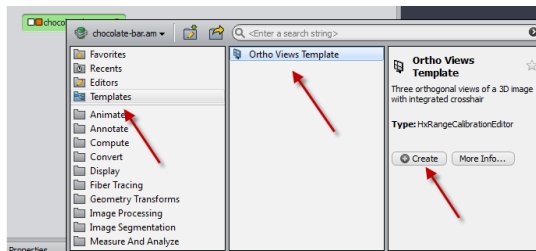

Figure 3.21: Ortho Views Template menu
- Right-click on the green data icon that appeared in the Project View. In the object popup, choose the category entry called *Templates*, then double-click on the entry *Ortho Views Template* (or click on *Create*), see Figure 3.21. You can also use the search field and type the first letters of *Ortho Views Template*, then selecting the module in the list will automatically create it in the Project View.